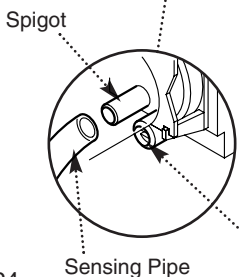

Fig. 40B
3. Slacken the pressure test point sealing screw and connect a pressure gauge. Disconnect the sensing pipe from the spigot adjacent to the pressure test point (Fig. 40B).